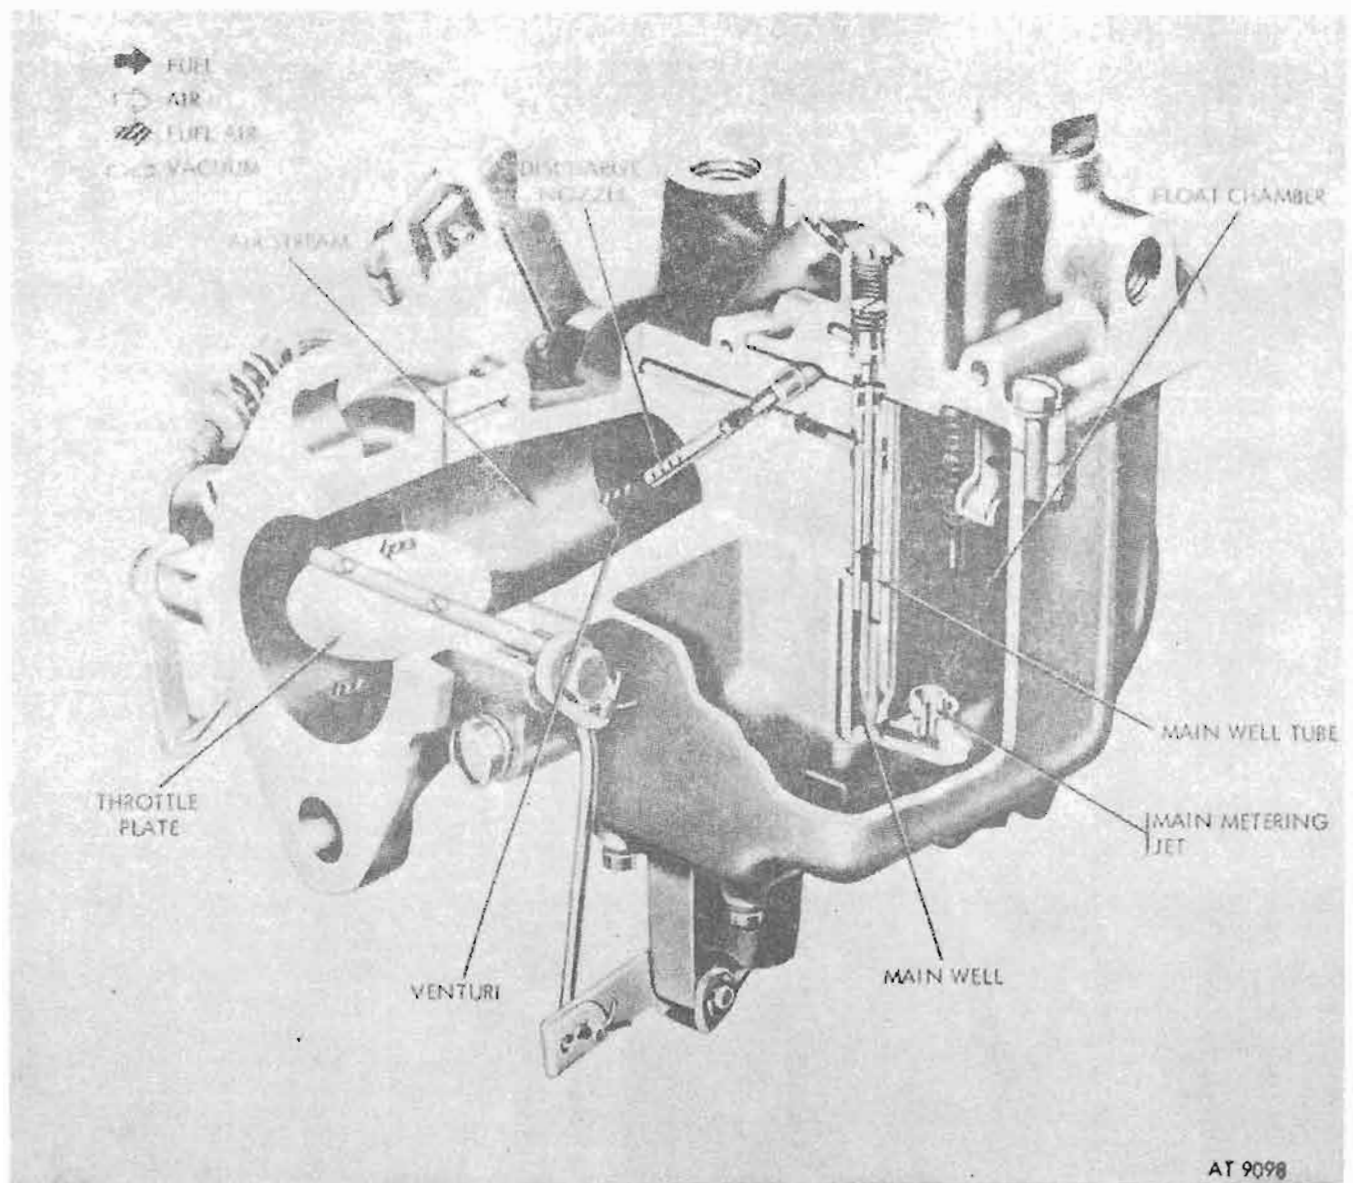

Figure 5-2. Main metering system.
b. *Main Metering System* (fig. 5-2). Purpose of the main metering system is to inject sufficient fuel into the air stream to provide correct fuel-air ratio for normal engine operating conditions. Fuel from the float chamber flows through the main metering jet, which limits the amount of fuel passing through to the main well. Gravity forces fuel to fill the main well to the level allowed by the float; vacuum then pulls the fuel from main well to main well tube. Vacuum also determines the amount of fuel pulled from the main well tube through a passage to the discharge nozzle. A high speed bleed vents the main tube and is designed to introduce air to the main metering system, thus preventing too-rich mixtures. Introducing air to the fuel at this point also serves to provide a mixture of fuel and air which vaporized more readily. A restriction in the high-speed bleed passage limits the amount of air passing through, preventing an overlean mixture. Position of the throttle plate controls the fuel-air mixture passing through the venturi, thus regulating speed and power output of the engine in direct relation to accelerator pedal or hand throttle movement.